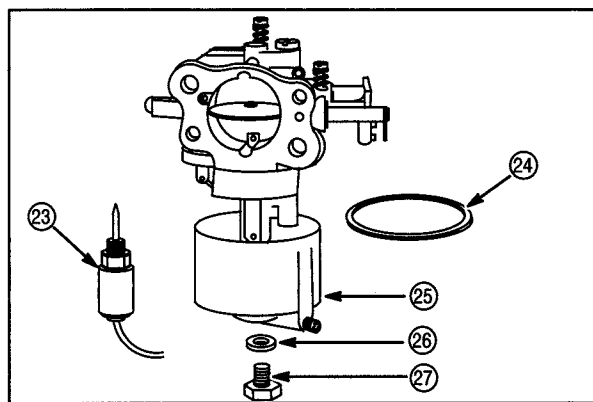

**Fig. 39**
19. Install idle mixture screw (21) and spring (22), **Fig. 39.**